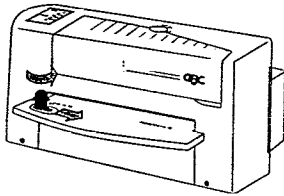

Figure A.2
1. The Power Punch table has Edge Guide alignment markings for standard sheet sizes. Loosen the Screw Knob on the Edge Guide and move the right side of the Edge Guide to the alignment line for your paper size (see Figure A.2). For 8-1/2" x 11" paper or covers use "paper" indicator. Tighten the Screw Knob. Turn the main power switch ON/I. When punching oversized covers, simply rotate the outer edge guide from the paper setting to the cover setting.